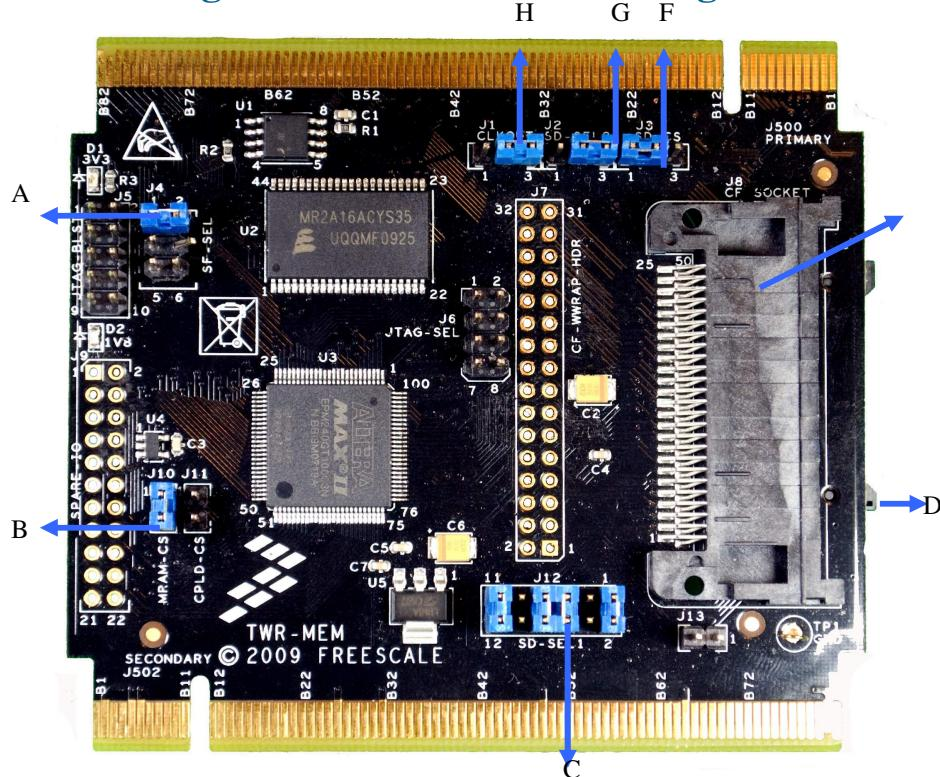

Figure 8 - TWR-MEM
- Shunt 1-2 of J10 (See B of Figure 8 - TWR-MEM)
- Shunt 1-2 of J4 (See A of Figure 8 - TWR-MEM)
- Shunt 2-3 of J1 for SD CLKOUT (See H of Figure 8 - TWR-MEM)
- Shunt 2-3 of J2 for SD Selection (See G of Figure 8 - TWR-MEM)
- Shunt 1-2 of J3 for SD CS (See J of Figure 8 - TWR-MEM)
- Shunt 1-2 of J12 (See C of Figure 8 - TWR-MEM)
- Shunt 5-6 of J12 (See C of Figure 8 - TWR-MEM)
- Shunt 7-8 of J12 (See C of Figure 8 - TWR-MEM)
- Shunt 11-12 of J12 (See C of Figure 8 - TWR-MEM)
- Setup SW1 of pin 1 to Off (1) (See B of Figure 8 - TWR-MEM) boot settings